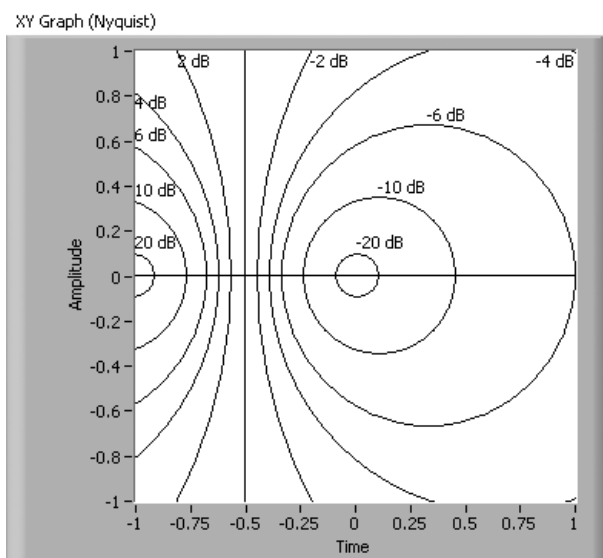

Figure 8.29
The XY graph allows you to show special grid lines, called “planes,” by selecting them from its **Optional Plane** pop-up submenu. You can choose from *Nyquist*, *Nichols*, *S*, and *Z* planes. These planes are very useful in Radio Frequency (RF) as well as Sound and Vibration analysis, where signals are analyzed in the frequency domain, rather than time domain. You can show or hide the Cartesian (XY) grid lines by checking or unchecking (respectively) the **Optional Plane>>Show Cartesian Lines** from the XY graph’s pop-up menu. The **Optional Plane** submenu also contains options to show and hide the plane labels and the plane lines for the selected plane. Figures 8.29 and 8.30 show XY graphs with Nyquist and Z planes visible (respectively). Note that the lines shown on the plots are grid lines, not data being displayed.